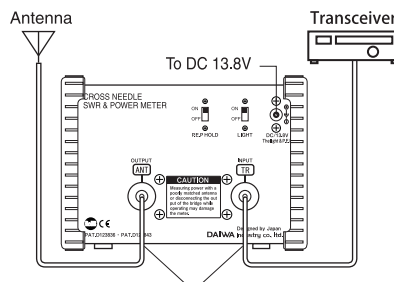

Fig. 1 50 ohms coaxial cable
- For accurate power measurements, use 50 ohms pure resistance dummy load.(Fig.1)